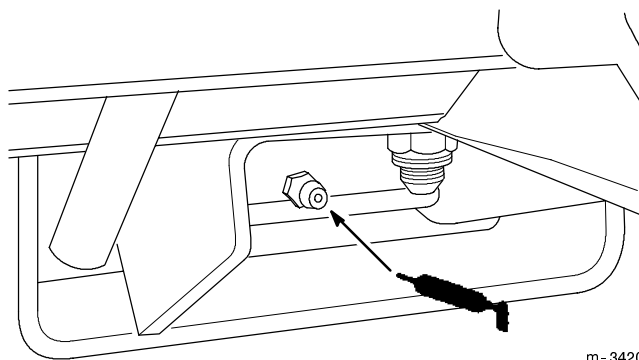

Figure 32
6. Grease the fitting on the brake pedal (Fig. 32).